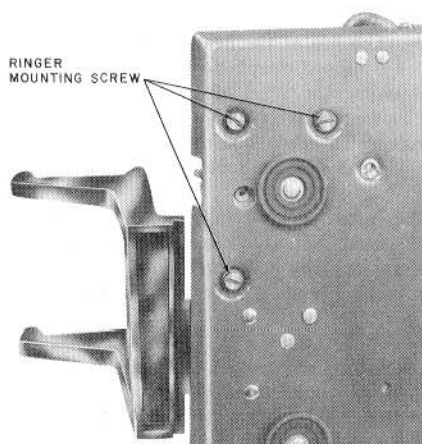

Fig. 23—Location of Mounting Screws for N1A or T1A Ringers
- (1) Remove housing.
- (2) Loosen dial mounting plate and move to left.
- (3) Disconnect ringer leads.
- (4) Remove N1A or T1A ringer mounting screws from underside of baseplate (Fig. 23) or